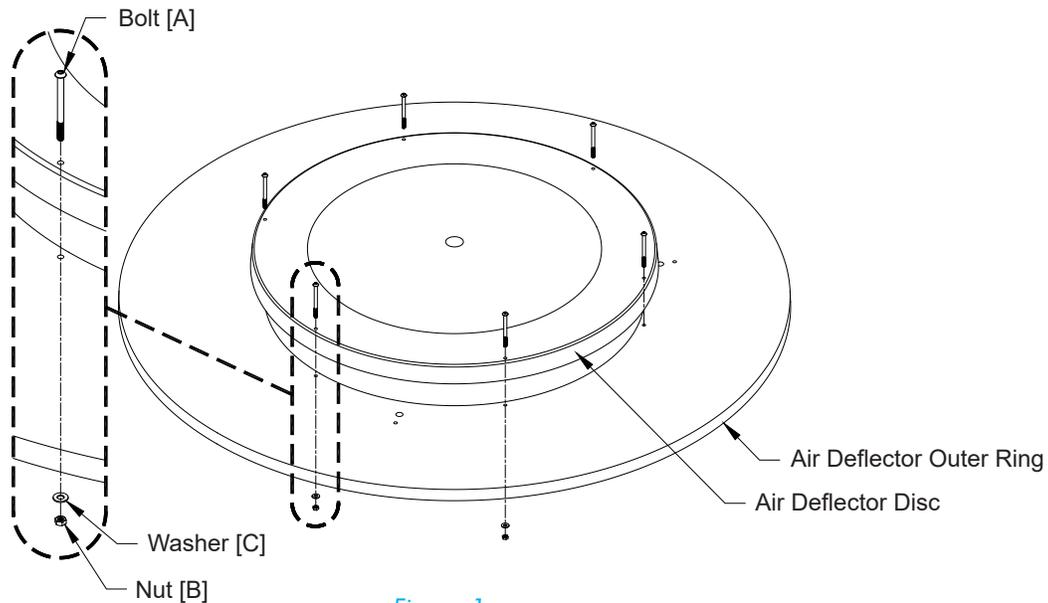

Figure 1
Find the Air Deflector Outer Ring and lay it on a flat surface. Lay the Air Deflector Disc with the raised center pointing up and fasten pieces together using (6) Bolts [A], Washers [C] and Nut [B]. *See Figure 1.*